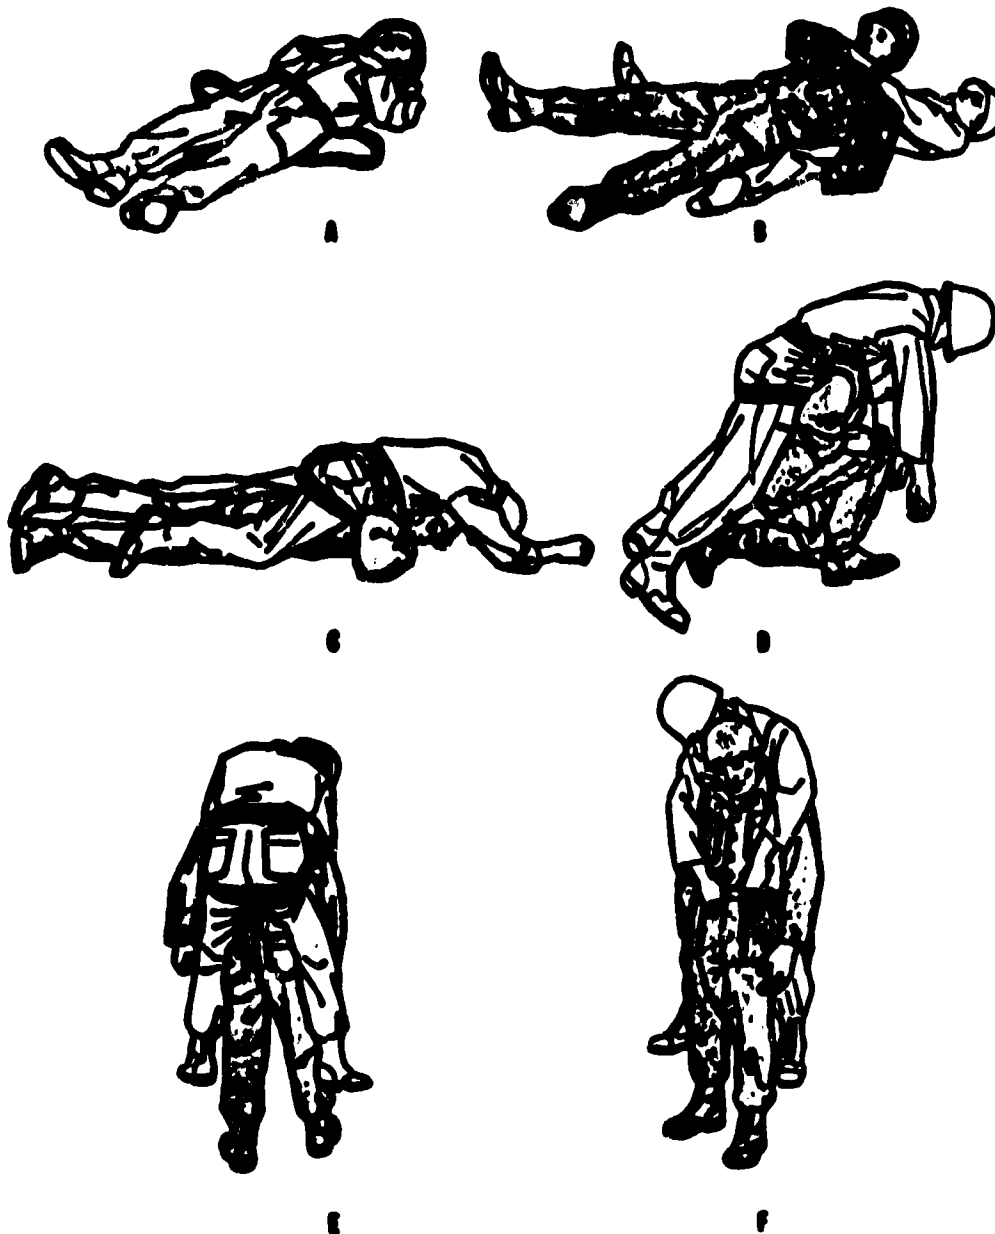

Fig 2-23. Pistol-belt carry.
• **Pistol-belt carry (fig 2-23)** - Link together two pistol belts into a continuous belt, then follow these steps: